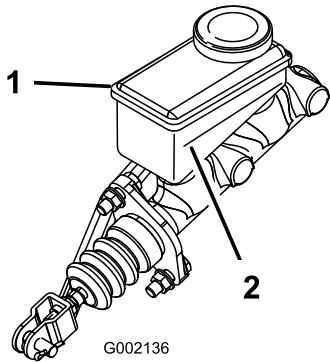

Figure 45
2. Look at the outline of the fluid level at the side of the reservoir (Figure 45).
- B. Add DOT 3 brake fluid to the reservoir until the fluid level is above the Minimum line (Figure 45).